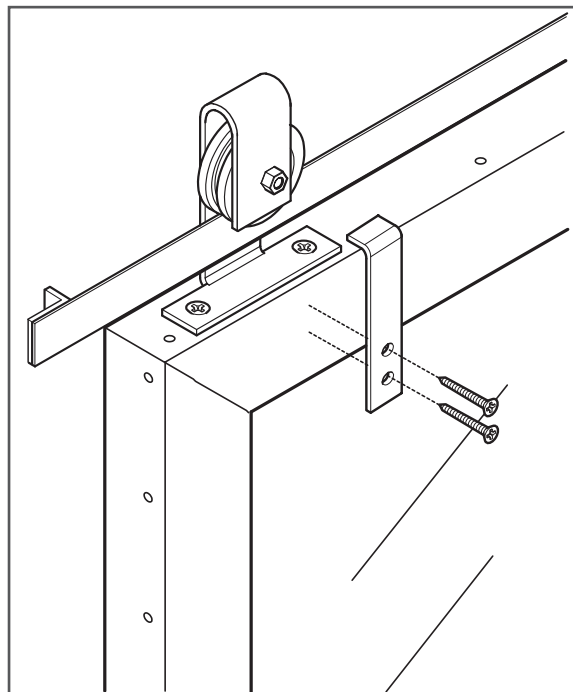

Figure 12
21. Install the bracket to the back of the door with 2 phillips screws (E.) using a drill with a phillips bit (Figure 12).